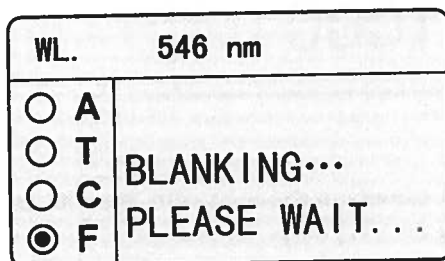

Fig. 4-10
- 4) Pull the Reference in the light path and press  to set 100%T (Fig. 4-10);